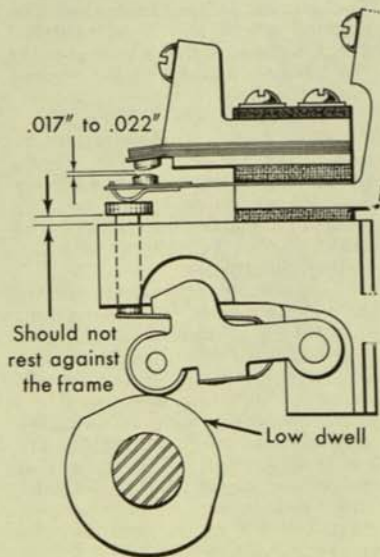

Figure 18. Plunger Circuit Breaker, Roller Cam Follower, Adjustment 4
4. With the circuit breaker assembly attached to the mounting bar by the holding screw (Figure 18), turn in on the adjustment screw to obtain a contact air gap of $.017''$ to $.022''$ when in the low dwell of the cam.